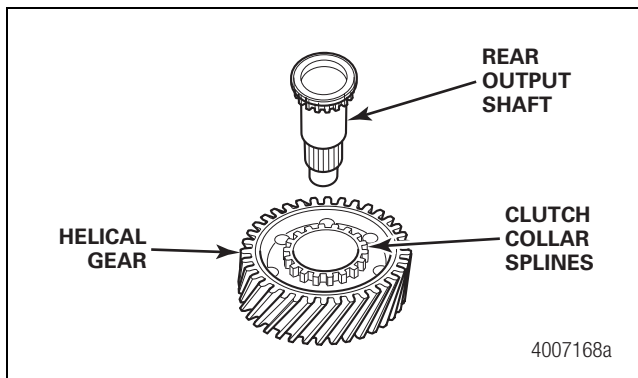

Figure 6.10
2. Align the internal splines of the high range helical gear with the shaft splines and install the gear onto the shaft. Ensure that the clutch collar gears are facing UP. Figure 6.10.